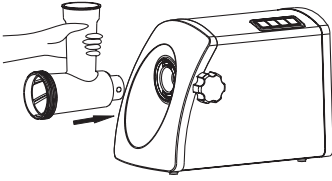
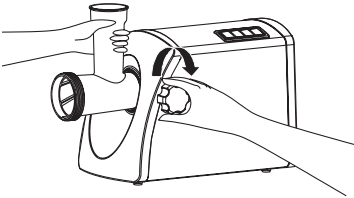

Figure 1.
Figure 2.
1. Place grinding head tightly into attachment opening (fig. 1). Hold the grinding head and place the locking knob into the hold on the side of the motor housing. Turn the knob clockwise to tighten and lock the grinding head in place. (fig. 2)